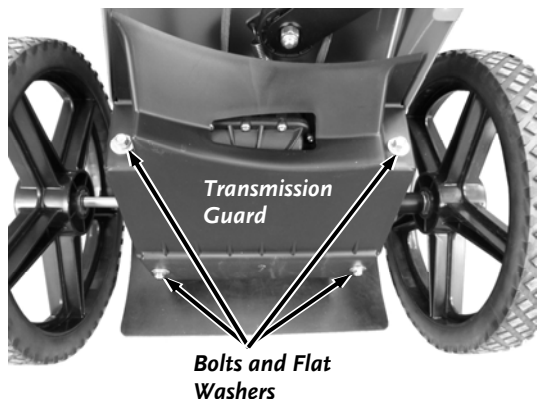

Figure 30
4. Remove the four Transmission Cover Bolts and Flat Washers with a 3/8" Wrench (**Figure 30**). Remove the Transmission Cover.
The Belt must be installed on the inside of the guide Pin as shown in figure 30. If it is not installed on the inside the Trimmer Head will not function correctly.
14. Install the Transmission Cover and secure with the four Transmission Cover Bolts and Flat Washers using a 3/8" Wrench (**Figure 30**).